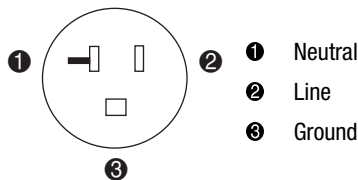

Figure 1. Wall outlet requirements for North America
- A dedicated outlet (Figure 1) and a 20 A circuit breaker must provide power to the library only. It is necessary to use a harmonized 3 x 1.5 mm² power cord that is approved by the associated country of use, and to install the appropriate wall outlet. For a listing of power cords available from Compaq Products, refer to Appendix D of the *Compaq StorageWorks ESL9000 Series Tape Library Reference Guide*.